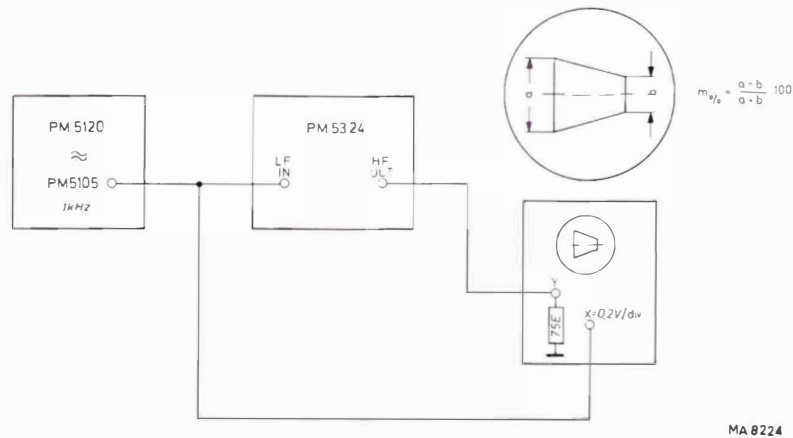

Fig. 32. Measuring set-up for representing a modulation trapezium
- This can be effected by interpretation of a modulation trapezium or an oscillogram (Fig. 32)
- A set up for representing a modulation trapezium is given in Fig. 32.